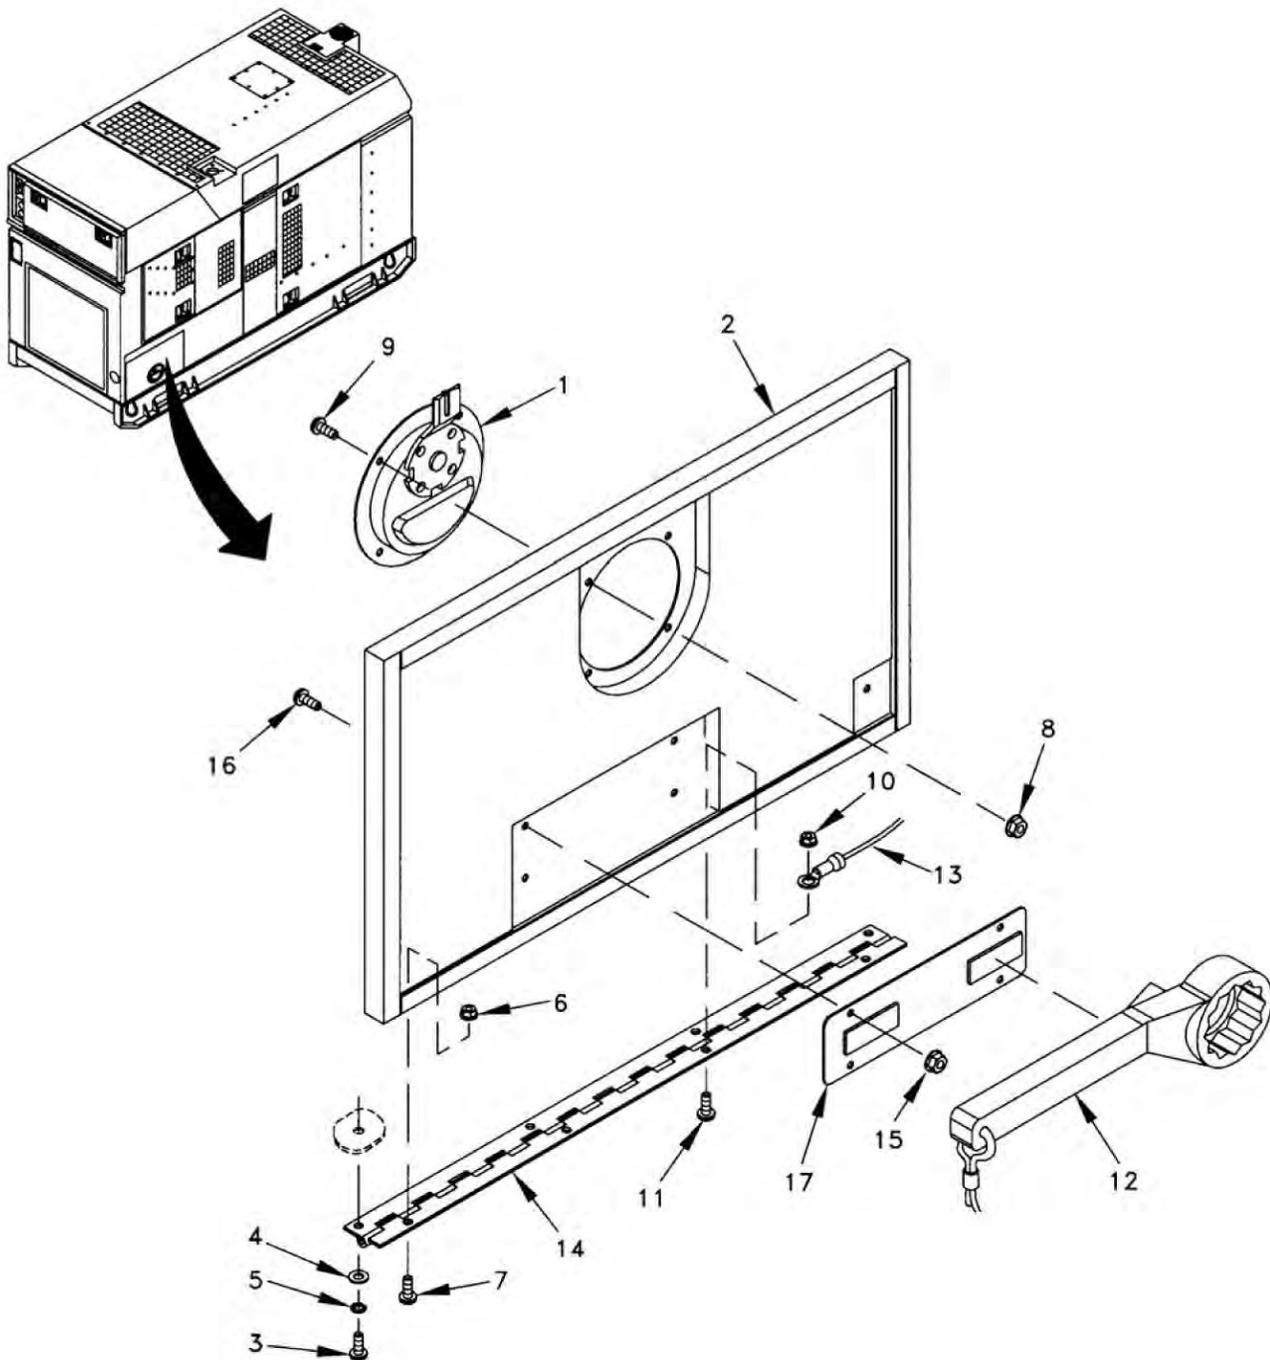

Figure 1. Load Board Door Assembly.
1. Turn latch (Figure 1, Item 1) and open load board door assembly (Figure 1, Item 2).
2. Remove four screws (Figure 1, Item 3), washers (Figure 1, Item 4), lock washers (Figure 1, Item 5), and load board door assembly and hinge (Figure 1, Item 2).
1. Remove three nuts (Figure 1, Item 6) and screws (Figure 1, Item 7).
2. Remove four nuts (Figure 1, Item 8), screws (Figure 1, Item 9), and latch (Figure 1, Item 1).
3. Remove nut (Figure 1, Item 10), screw (Figure 1, Item 11), wrench (Figure 1, Item 12), cord (Figure 1, Item 13), and hinge (Figure 1, Item 14).
4. Remove four nuts (Figure 1, Item 15), screws (Figure 1, Item 16), and wrench mounting plate (Figure 1, Item 17).
3. Install wrench mounting plate (Figure 1, Item 17), four screws (Figure 1, Item 16) and nuts (Figure 1, Item 15).
4. Install cord (Figure 1, Item 13), hinge (Figure 1, Item 14), and wrench (Figure 1, Item 12), and secure with screw (Figure 1, Item 11) and nut (Figure 1, Item 10).
5. Install latch (Figure 1, Item 1) and secure with four screws (Figure 1, Item 9) and nuts (Figure 1, Item 8).